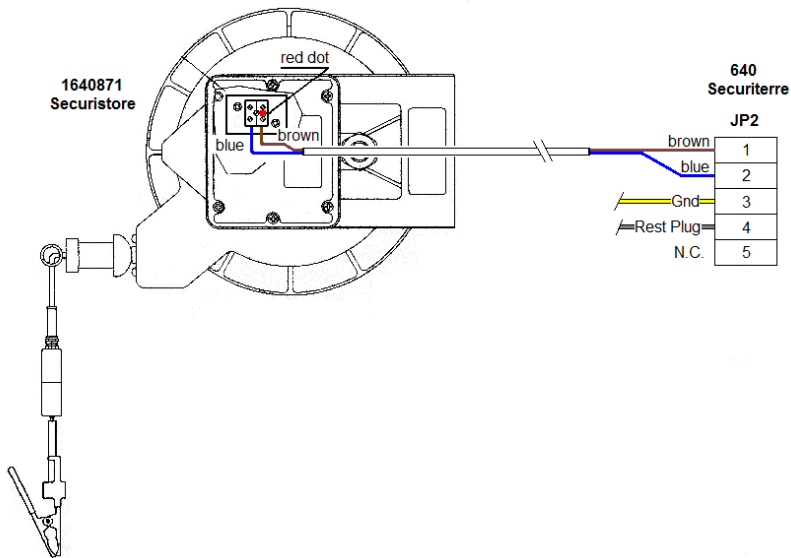

Figure 4 Wiring Securistore Truck version
- 4) Connect the wires according to the table of JP2 and/or Figures 4 or 6;